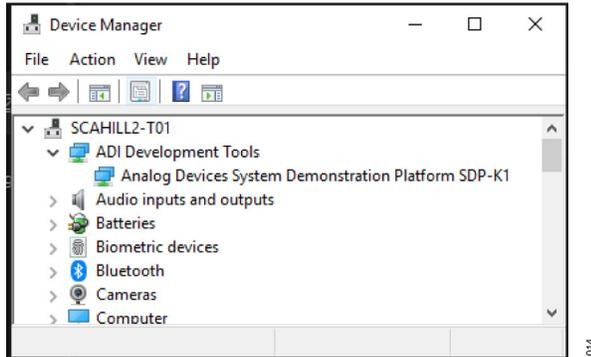

Figure 16. Device Manager Window
2. Navigate to the **Device Manager** window on the PC (see Figure 16).
4. The **Computer Management** window opens. From the list labeled **System Tools**, click **Device Manager**. If the SDP-K1 driver is installed and the board is properly connected to the PC, **Analog Devices System Demonstration Platform SDP-K1** is shown in the **ADI Development Tools** list in the **Device Manager** window, as shown in Figure 16.